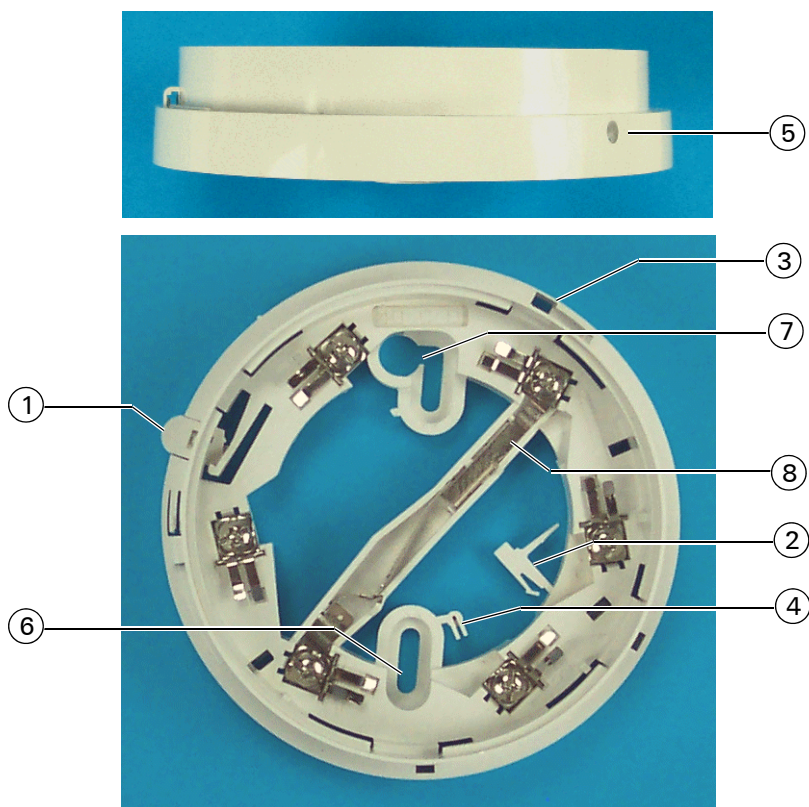

Fig. 1: 4B-C 4" base
Figure 1 shows a typical base in the series (the 4B-C). The numbered items are explained further throughout this guide.
- 1 Snap the pin free of the moulding (see Item 2 in Figure 1).
- 2 Depress and hold in the Temporary Park Plunger (see item 1 in Figure 1).
- 1 Snap the plug free of the moulding (see Item 4 in Figure 1).